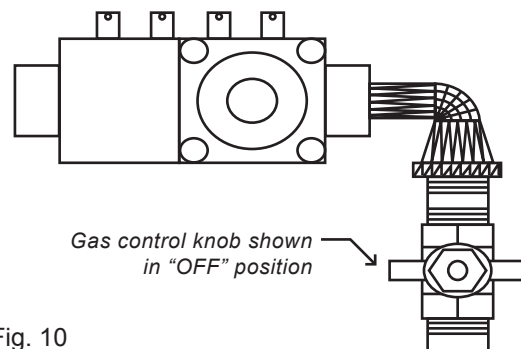

Fig. 10
6. Turn gas control knob clockwise ↻ to "off". Do not force. See Figure 10.
7. Wait five (5) minutes to clear out any gas. If you smell gas, STOP! Follow "B" in safety information on this label. If you don't smell gas, go to next step.